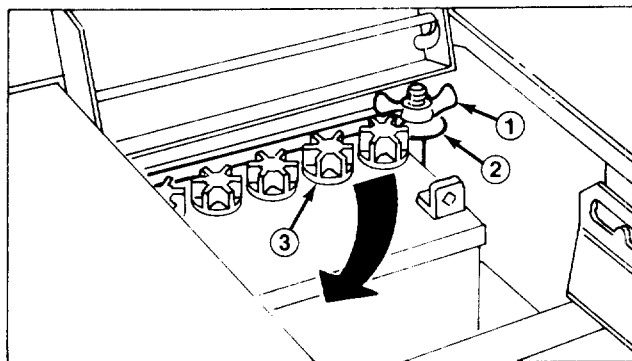

Figure 4
2. Remove wing nut securing battery hold downs to rider chassis. (Fig. 4)